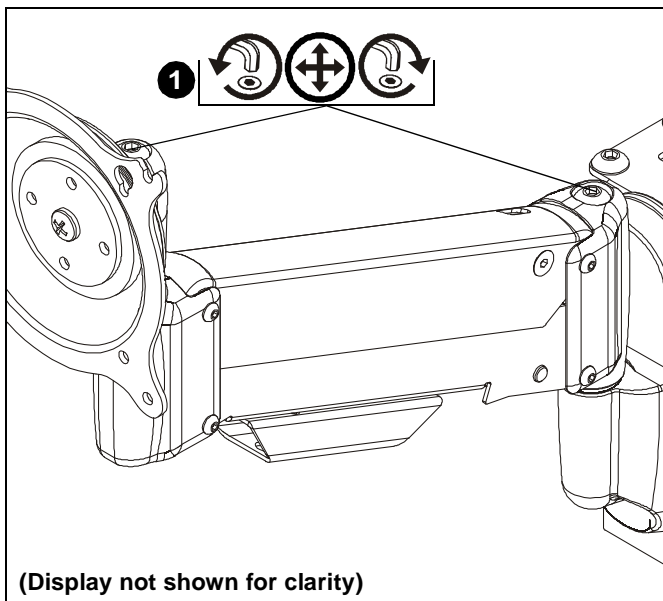

Figure 12
1. Using 3/16" hex wrench (P), loosen or tighten adjustment screw(s) as necessary (See Figure 12).